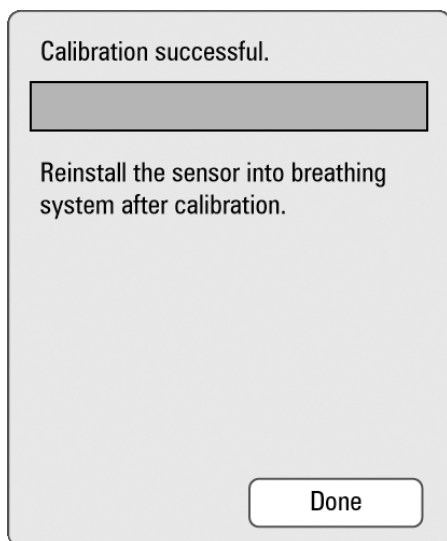

FIGURE 6-25 Oxygen Sensor Calibration Successful
- **If the calibration is successful**, the screen shown in FIGURE 6-25 will be displayed, instructing the user to reinstall the oxygen sensor into the Breathing System. Select the **Done** button to complete the process.